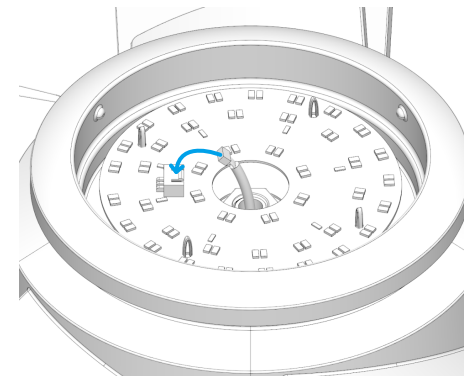

Fig. 4.2
4.2 Allow the wire plug to pass through the light kit. Reinstall the light kit. The light kit will be magnetically attracted to the pan with the help of magnets. Insert the wire plug into the light kit terminal block as shown in Fig. 4.2.